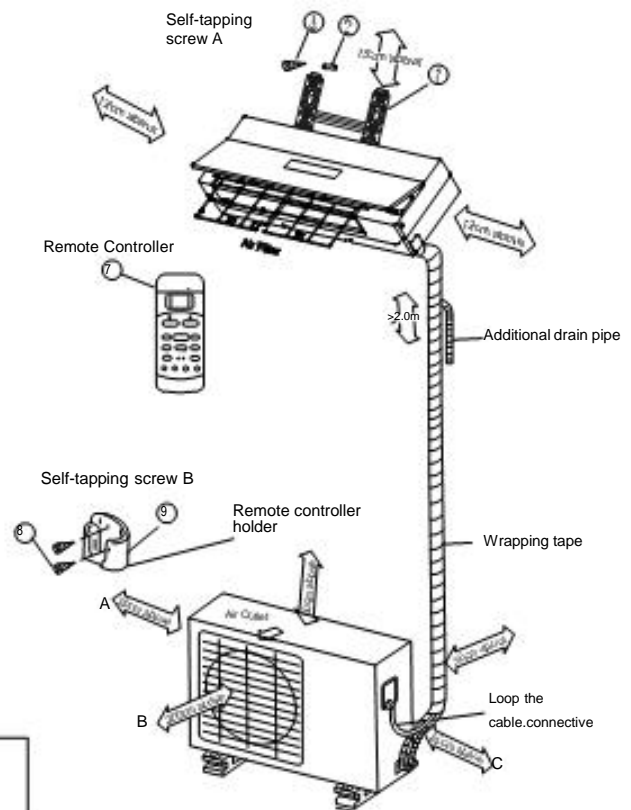

Fig.3
- Two of the A, B and C directions should be free from obstructions (see fig. 3).